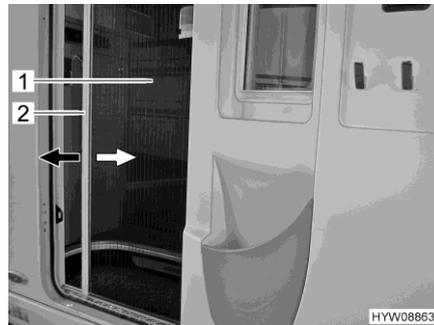

Fig. 40 Insect screen (living area door)
- Hold holding bar (Fig. 40,2) with both hands and pull the insect screen (Fig. 40,1) evenly out of the door holder.
- Hold holding bar (Fig. 40,2) with both hands and push the insect screen (Fig. 40,1) back into the door holder applying slight pressure.